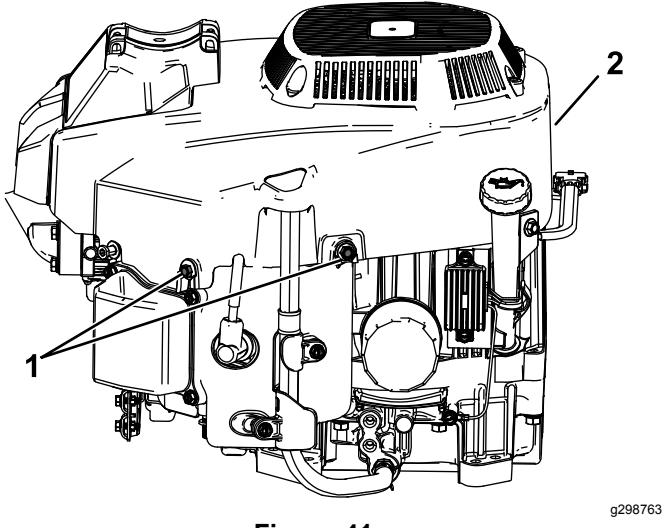

Figure 41
1. Air filter canister	3. Hairpin cotter (2)
2. Clevis pin (2)
4. Loosen the bolts and remove the fan housing (Figure 41).